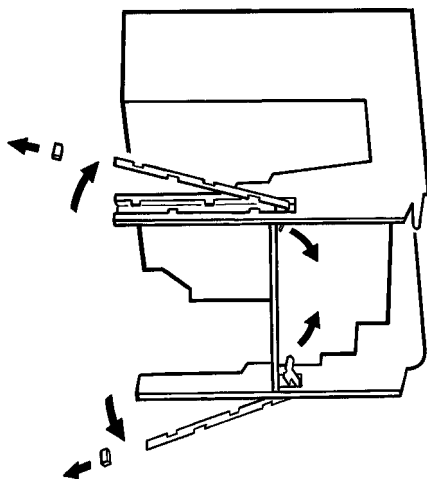

Figure 8 Switch actuator removal
11. Remove the two metal switch actuators from the chassis as shown in figure 8.